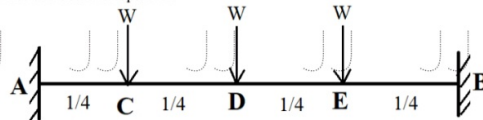

Figure: 5
- 6.a) Determine the fixed end moments for the loaded beam shown in figure 5. Draw also BMD for the beam of span 'l'. [15]